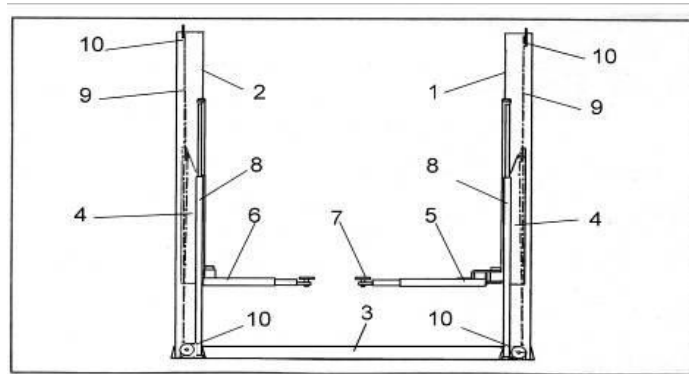

Fig. 4
1.1 FIXED CONSTRUCTION (FIG. 4)
1.2 MOVABLE UNITS (SEE FIG. 4)
1.3 LIFTING ASSEMBLY (SEE FIG. 4)